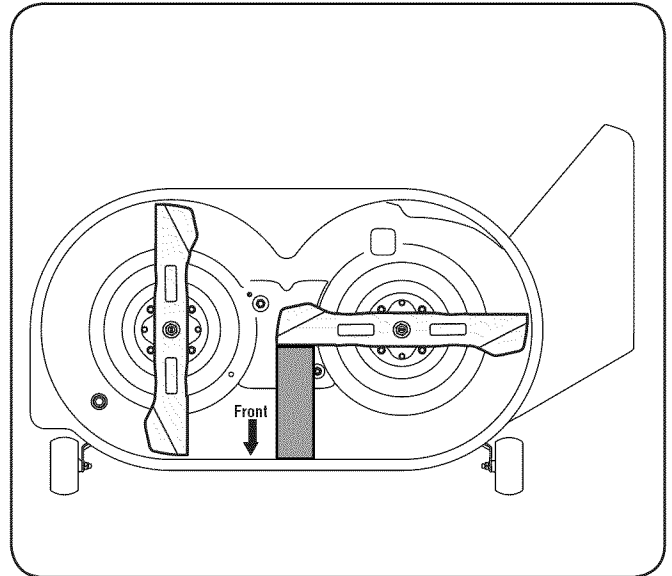

Figure 2
**IMPORTANT:** Blades MUST be Positioned as seen in Figure 2.